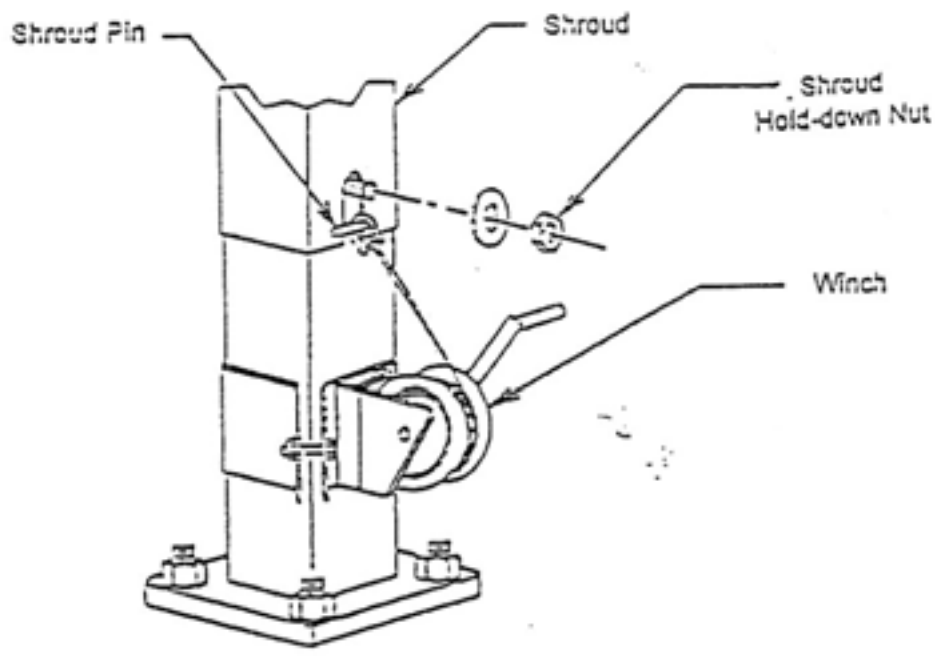

FIGURE 6
10. Attach winch to pole. (FIG6).
11. Attach cable end to shroud pin (FIG6).
12. Remove shroud hold-down nut (FIG. 6).